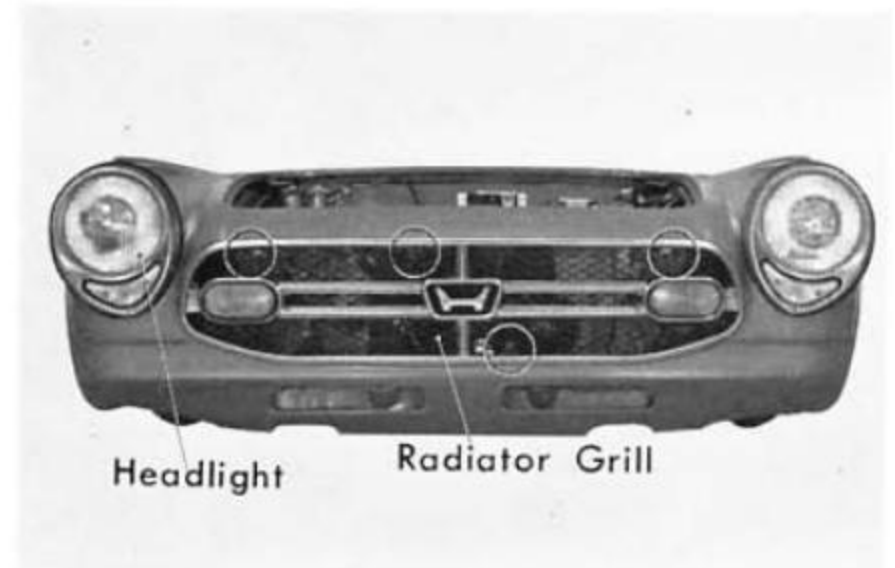

Fig. 17F-2
5. Remove the starter magnetic switch, resistor ignition coil and regulator from the engine compartment (Fig. 17F-3).